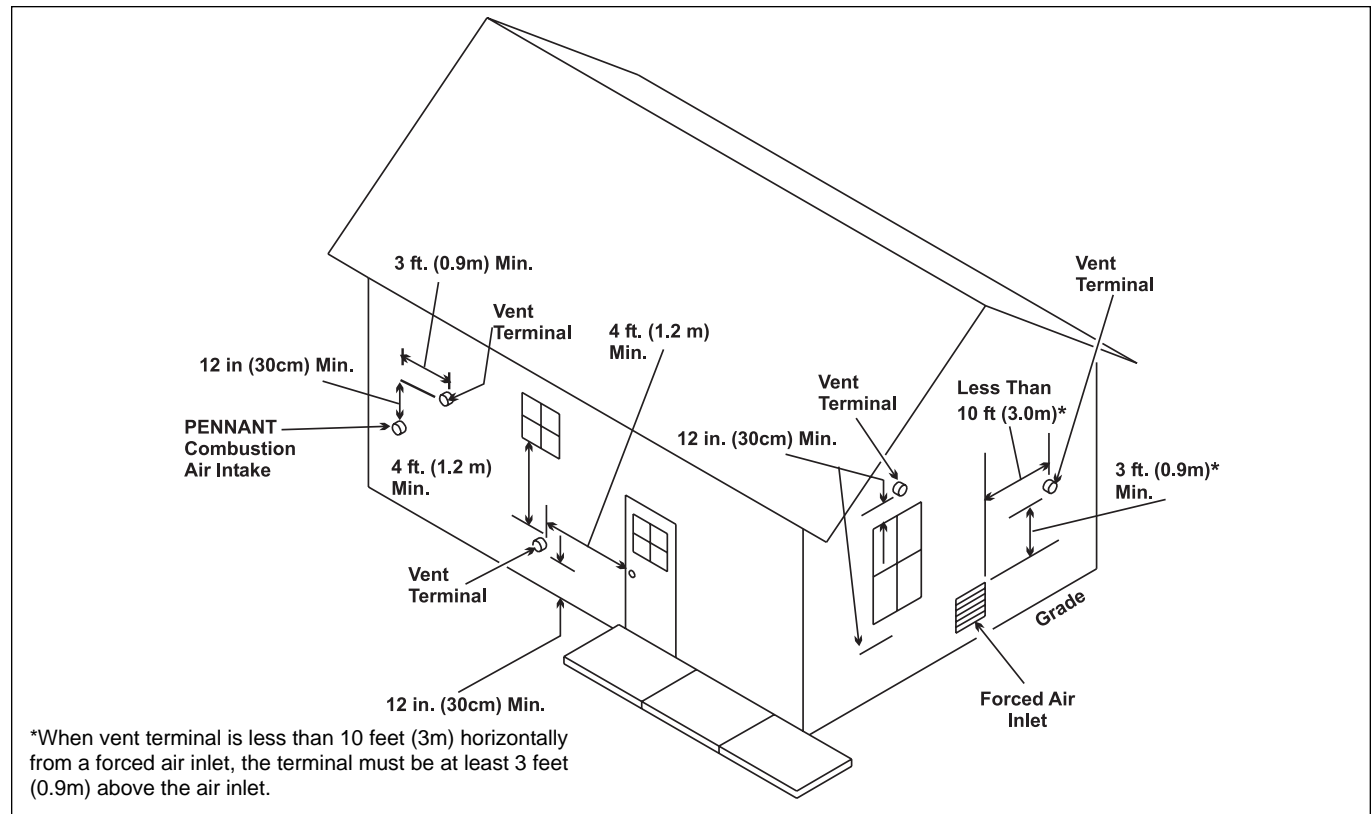

Figure 3. Combustion Air and Vent Through Side Wall.
local applicable codes (see Figure 3). Consider the following when installing the terminal:
4. If the Pennant is side-wall vented to the same wall, locate the vent terminal at least 3 feet (0.9m) horizontally from the combustion air terminal, and locate the vent terminal at least 1 foot (0.3m) above the combustion air terminal (see Figure 3).